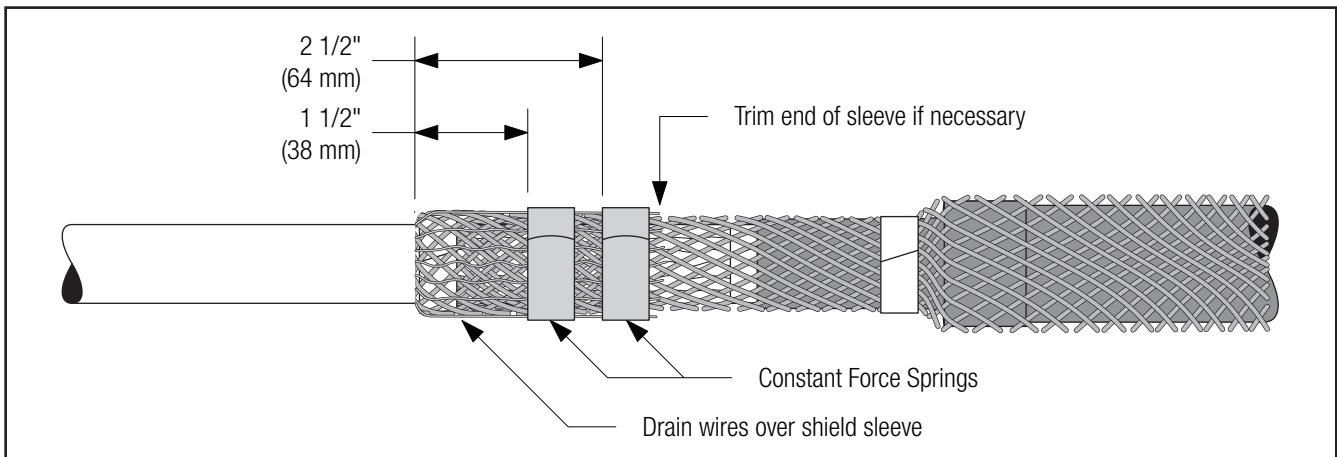

Figure 29
6.4.2 Bend ends of sleeve back over vinyl tape. Carefully position drain wires over the shield sleeve. Secure with constant force springs 1 1/2" (38 mm) and 2 1/2" (64 mm) onto drain wires. Trim off excess sleeve 1/2" (13 mm) from springs, if necessary (*Figure 29*).